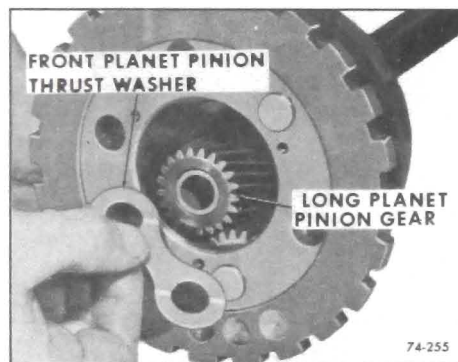

Figure 74-255
10. Remove front planet pinion thrust washer and long planet pinion gear. See Figure 74-255.